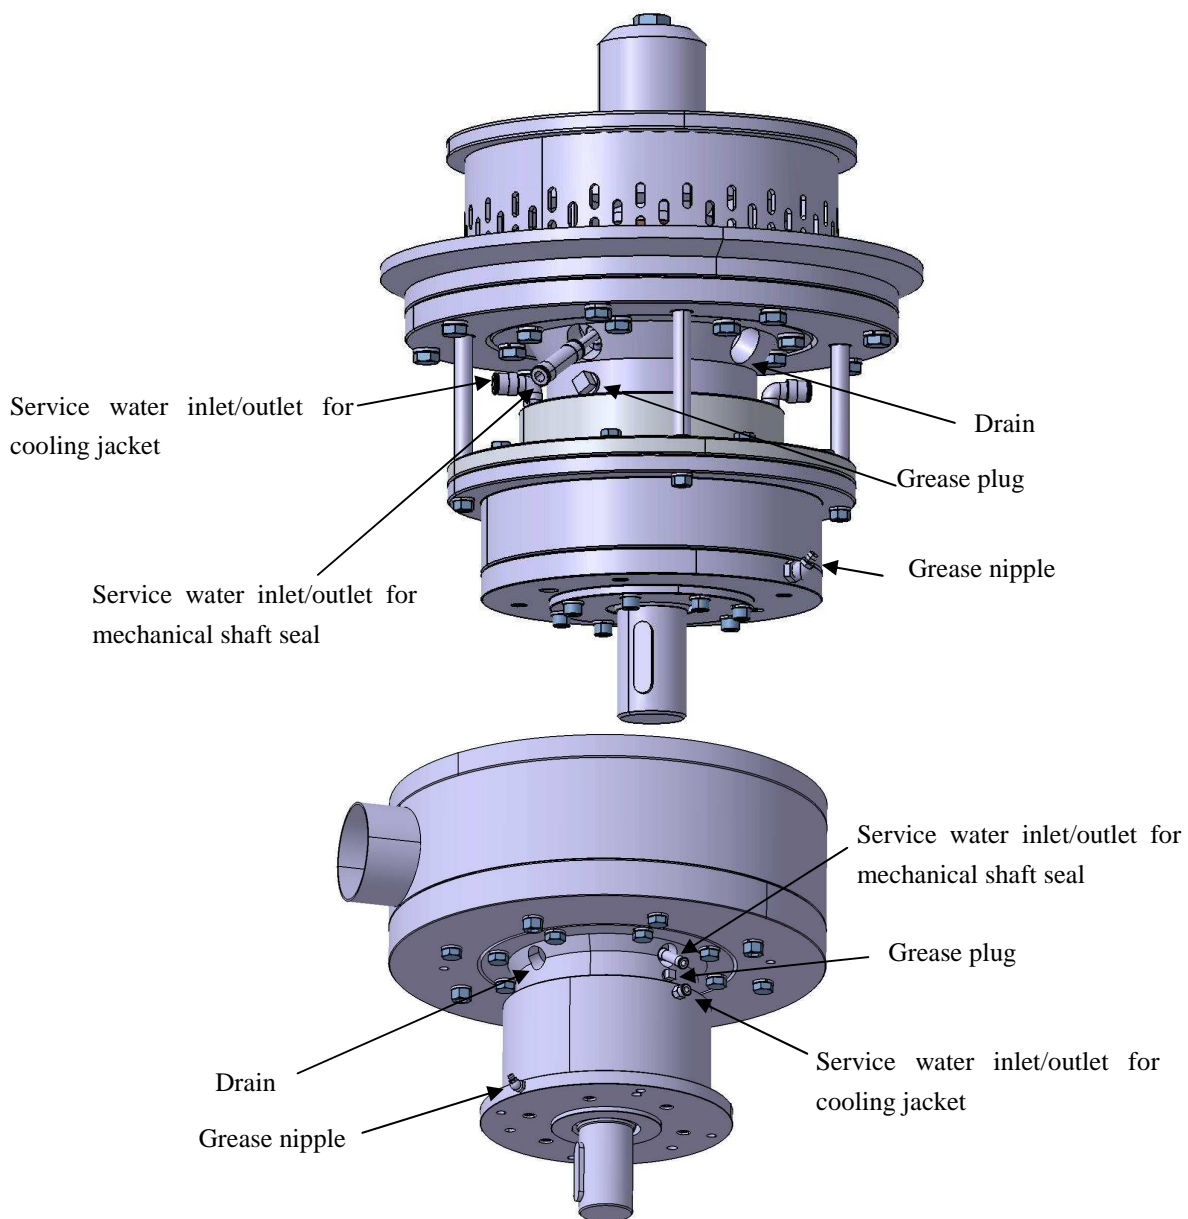

Figure 8.1: Maintenance checkpoints. Upper image: Batch mixer. Lower image: Inline mixer
- Check that service water is running through the mechanical shaft seal. See Figure 8.1
- Check that service water is running through the cooling jacket on the bearing house. See Figure 8.1
- Check the mixing unit that no water is coming out of upper drain on the bearing house of the mixing unit. See Figure 8.1
- Check that there are no traces of products in the water from the water inlet/outlet on the turbo unit. See Figure 8.1
- Check bearings on the mixing unit for grease. Press grease into the bearing house by using the grease nipple at the side of the Turbo bearing house until grease comes out of the drain hole (grease plug on bearing house). See Figure 8.1. Always perform this shortly after turbo unit has run so the temperature is high at the bearing house. Never use more than 2-3 stroke on grease lubrication gun to top up the grease level.